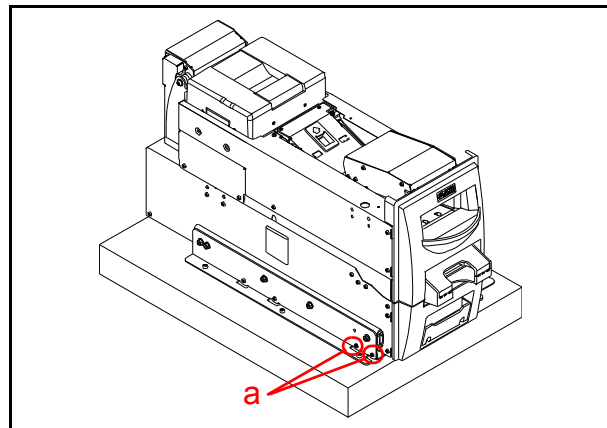

Figure 12 Latch Plate Positioning
**NOTE:** Re-adjust the Latch Plate position in order to eliminate movement of the Unit by tightening two (2) Screws (Figure 12 **a**)